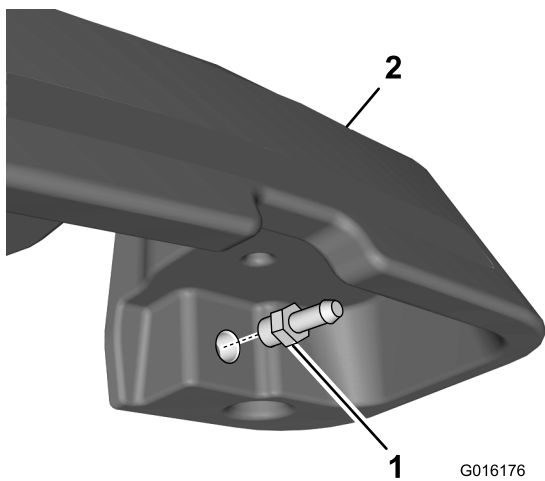

Figure 6
21. Install the straight hydraulic fitting into the opening on the underside of the leak detector tank (Figure 6).